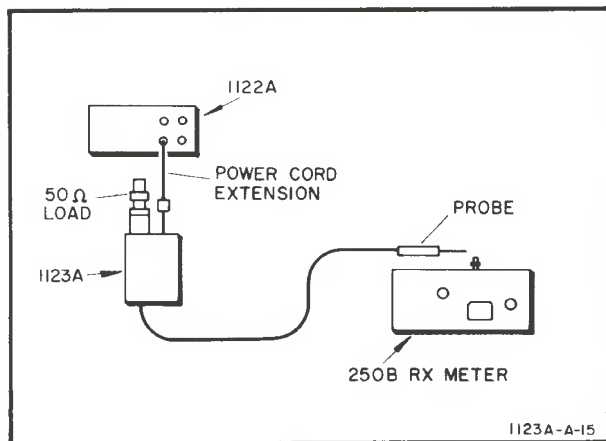

Figure 5-5. Input Capacitance Set-up
- Connect the equipment as shown in Figure 5-5.